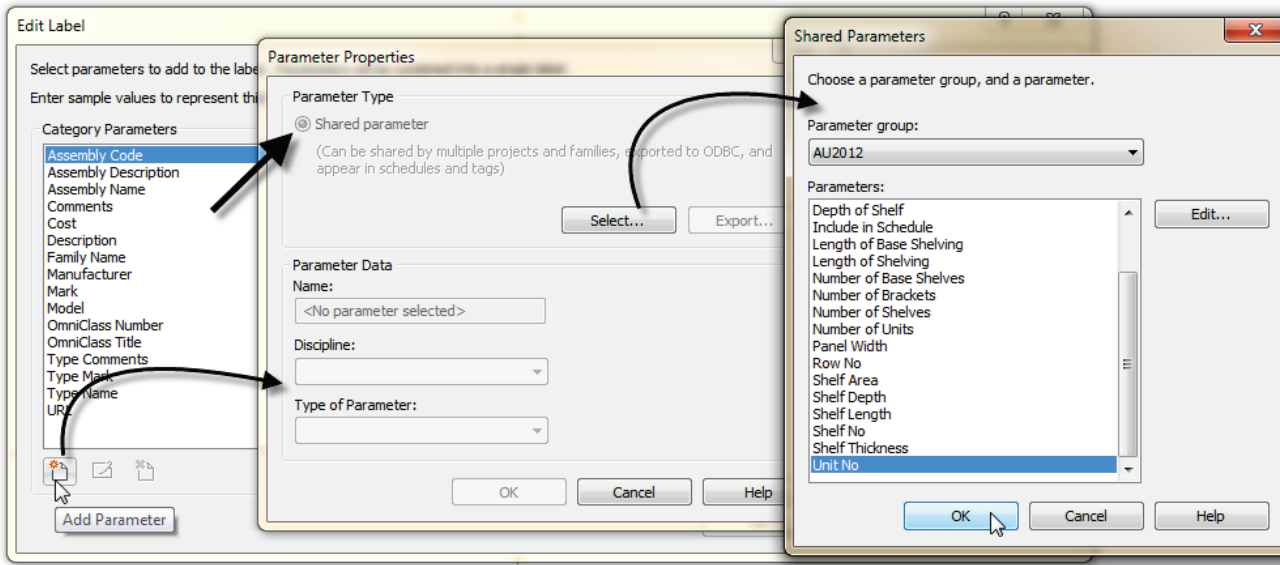

Figure 7—Add a new parameter from the Shared Parameter file
8. In the “Shared Parameters” dialog, choose the Unit No parameter and then click OK twice (see Figure 7).